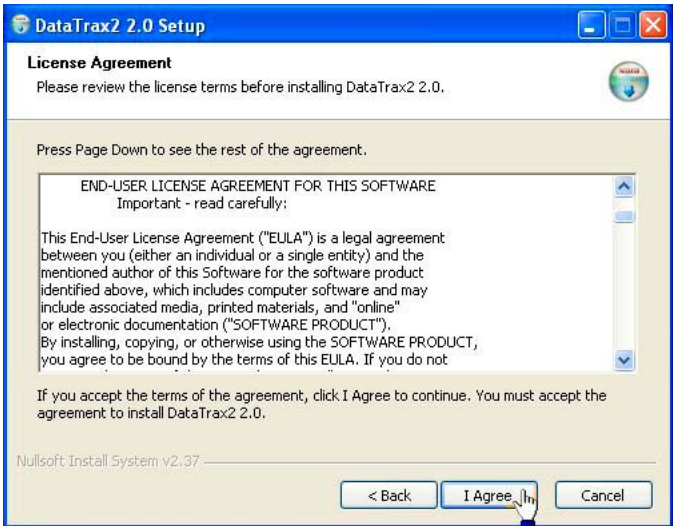

Fig. 19 —License Agreement
- Click the **Next** button. Then, the **License Agreement** appears (Fig. 19).